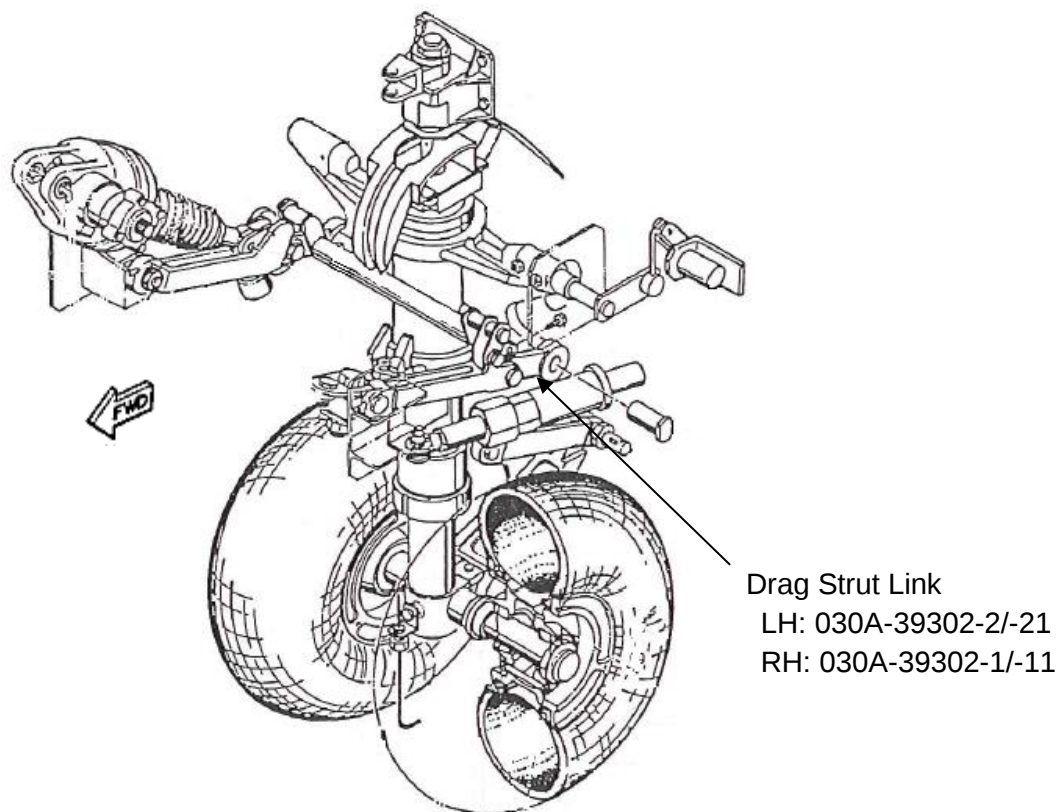

Figure 7: Drag Strut Link Location
- (1) Visually inspect LH and RH Drag Strut Links for crack, deformation, nick, gouge, rust, wear of the groove and corrosion. (Figure 7)
- (2) Visually inspect the existence of staking marks on the outboard side of Drag Strut Link for correct installation. (Figure 7 and 8)